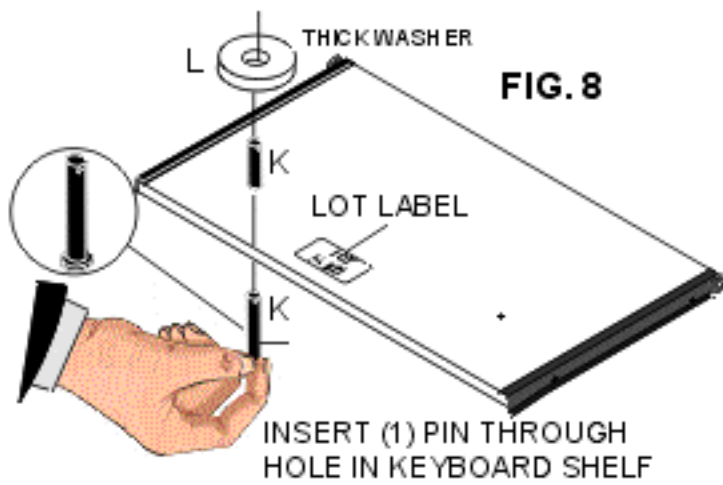

FIG. 8
Insert PIN (K) through top surface of KEYBOARD SHELF. FIG. 8 **NOTE:** LOT LABEL references underside of KEYBOARD SHELF. WHEELS on RAILS indicate back of KEYBOARD SHELF. Left hole selection as shown mounts MOUSE BOARD in right hand position. Select other hole for left hand position. Lay KEYBOARD SHELF (up-side down) on the corner of desk or table top to hold pin against SHELF surface. FIG. 8 **PROTECT DESK OR TABLE TOP.** Install THICK WASHER (L) as shown.